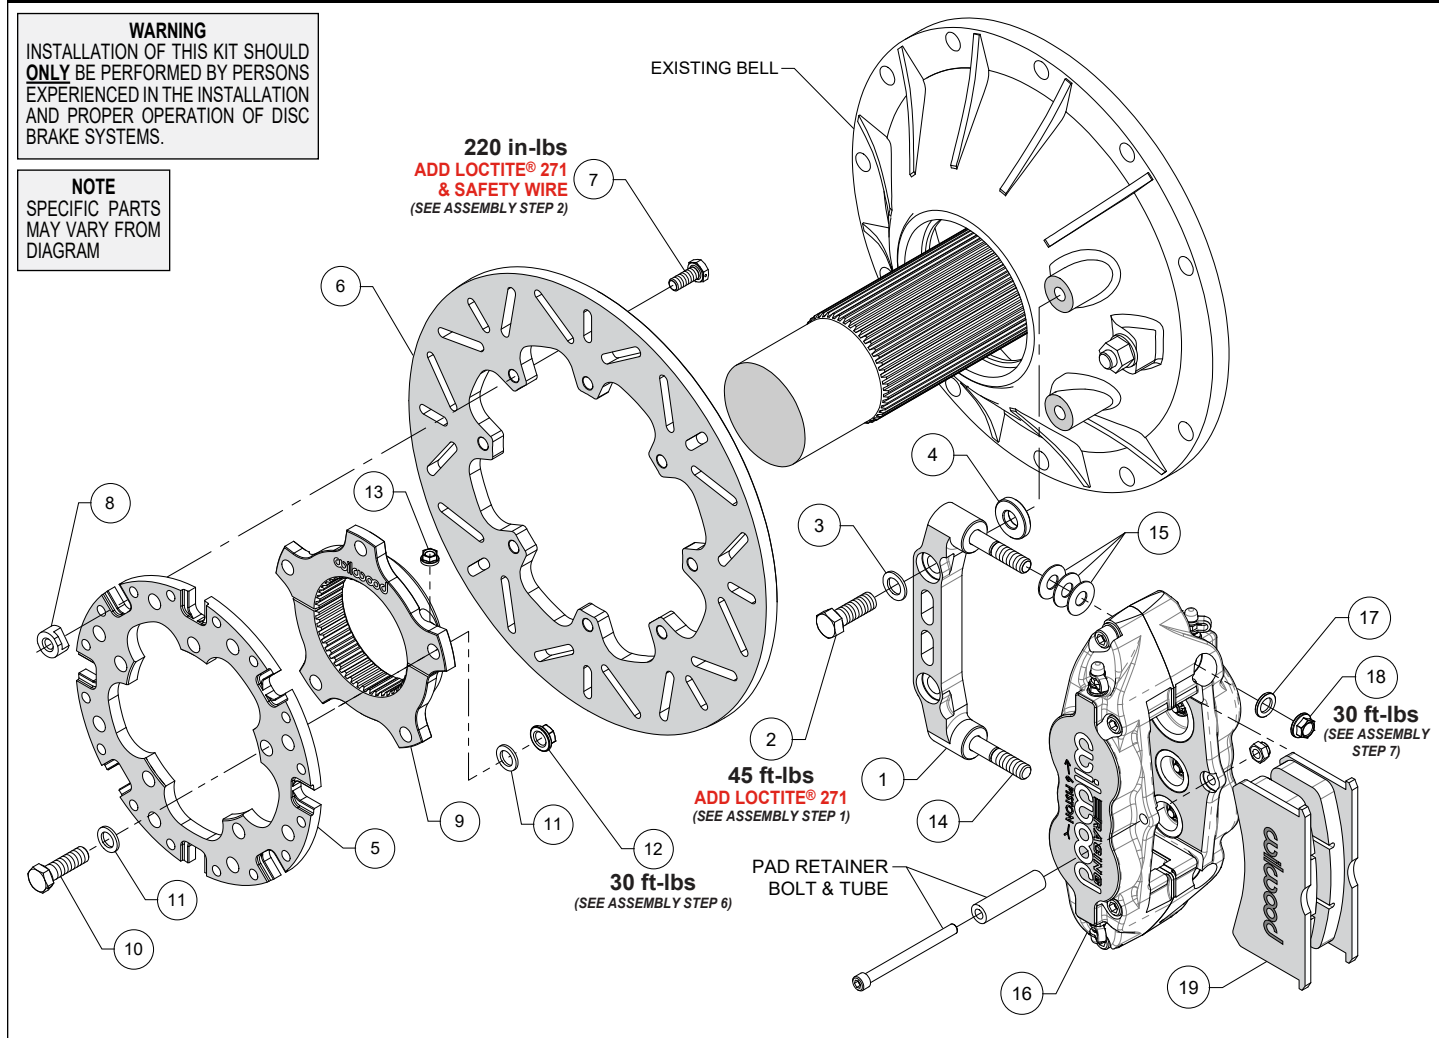

Figure 1. Typical Installation Configuration
NOTE: Numbers in parenthesis refer to the parts list and Figure 1 on the preceding pages.
STEP 1 Orient the caliper mount bracket (1) as shown in Figure 1 and install using bolts (2), washers (3), and spacers (4). Temporarily tighten the mounting bolts. **NOTE:** The bracket must fit squarely against the mount bosses on the bell. Inspect for interference from casting irregularities, machining ridges, burrs, etc. Remove the bracket mounting bolts one at a time, apply red *Loctite*® 271 to the threads, and torque to value shown in Figure 1.
STEP 2 Orient the rotor adapter (5) and the rotor (6), as shown in Figure 1, and attach using bolts (7) and t-nuts (8), Figure 1. Apply red *Loctite*® 271 to the bolt threads before installing. Finger tighten. After all t-nuts have been installed, torque bolts to value shown in Figure 1 using a criss-cross pattern. Please refer to
STEP 4 Orient the axle clamp assembly (9) as shown in Figure 1 and install onto the rotor adapter (5) using bolts (10), washers (11), and lock nuts (12). Tighten lock nuts part way while still allowing clamp-to-rotor movement. The lock nuts will be final tightened later, after aligning the rotor. **NOTE:** The axle clamp should be positioned inside of the rotor as shown in Figure 1, not offset, or outside of the rotor adapter.
STEP 6 Initially place three .035" thick shims (15) on each stud (14) as shown in Figure 1. Mount the caliper (16) onto the bracket (1) using washers (17) and lock nuts (18), Figure 1. Temporarily tighten the lock nuts (18) and view the rotor through the top opening of the caliper. The rotor should be centered in the caliper. If not, slide the rotor/adapter assembly on the axle until the rotor is centered in the caliper. Tighten the clamp lock nuts (13) first, Figure 1, locking the clamp to the axle. Torque rotor adapter lock nuts (12) to value shown in Figure 1.
STEP 7 Remove the caliper brake pad retainer bolt, tube, and locknut from the caliper. Insert the brake pads (19) into the caliper, with the friction material facing the rotor. Check that the top of the brake pad is flush with the outside diameter of the rotor. If not, adjust by adding or subtracting shims (15) between the caliper and the bracket. After the caliper pad height is set, torque the caliper locknuts (18) to value shown in Figure 1. Secure the brake pads in place with the brake pad retainer tube, bolt, and locknut. The locknut should be snug without play in the bolt or tube. Be cautious not to over tighten.